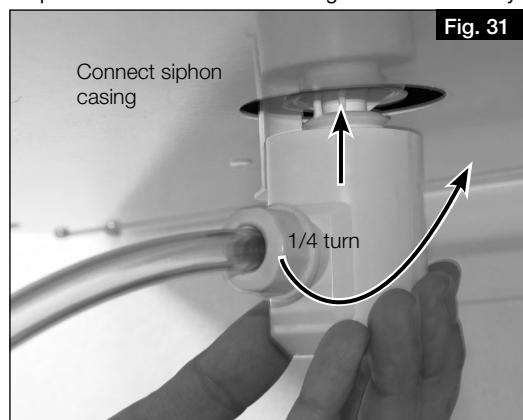

Fig. 31
5. Connect siphon casing and turn a 1/4 turn in the mounting part (see Fig. 31). Ensure that the float ball is loose in the casing!